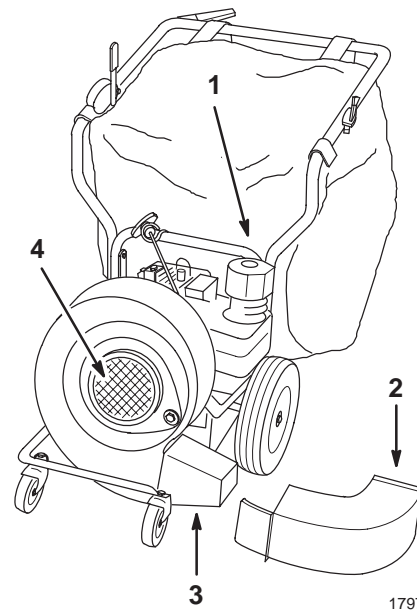

Figure 15
3. Remove the bag neck from blower discharge chute (Fig. 15). (You may remove the entire bag if desired.)
4. Remove the retaining bolt and lock washer securing the blower discharge chute and remove the chute (Fig. 15).
5. Install the blower tube, securing it with the fasteners removed in step 4 (Fig. 15).
10. Lift blower housing slightly and rotate it 120° clockwise (as you face the blower) (Fig. 15).
14. Install the blower intake screen, securing it with 1 of the washers and locknuts removed in step 2 (Fig. 15).